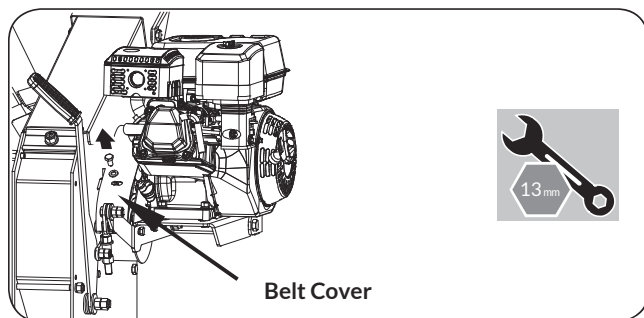

Figure 22
3. Remove the top belt guard from the front housing by taking off the fixing bolts. (See **Figure 22**)